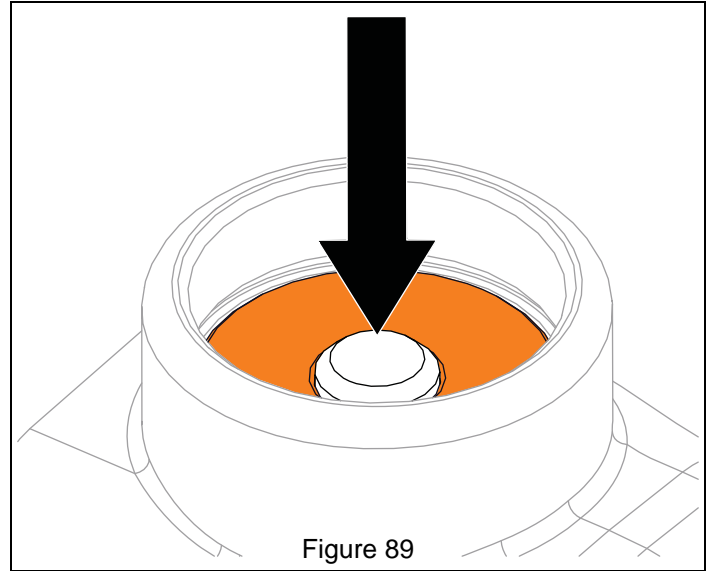

Figure 89
8. Reinstall flange bushing onto impeller shaft end. With a driver, strike bushing until positioned just below retaining ring groove. See Figure 89.